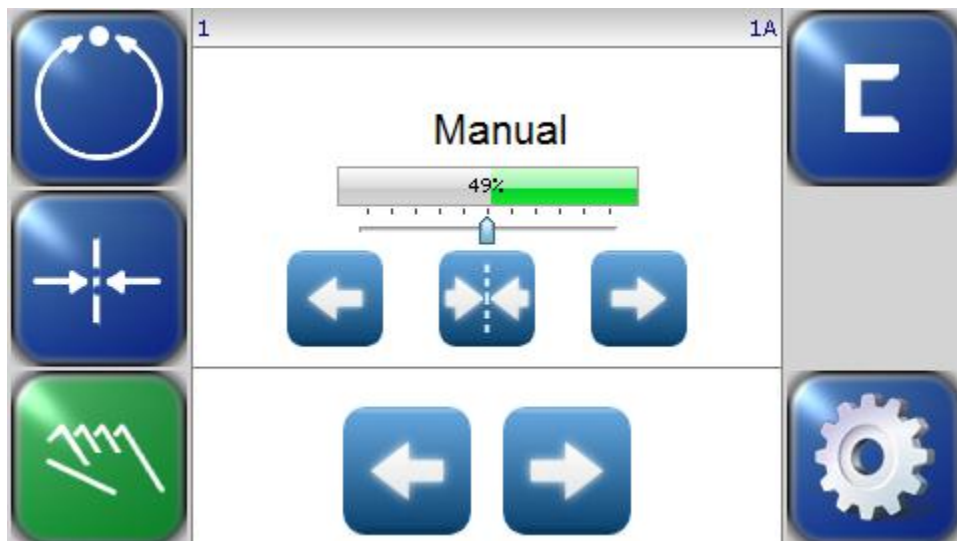

Figure 1.
Refer to the Figure 1, for the button locations in the standard, horizontal Control Panel. Also refer to the *FIFE-500 Web Guiding System User Manual, MI 2-262* for complete display definitions.
2. Verify the system is in Manual Mode by pressing the MANUAL button. Refer to Figure 1 on page 2-1.